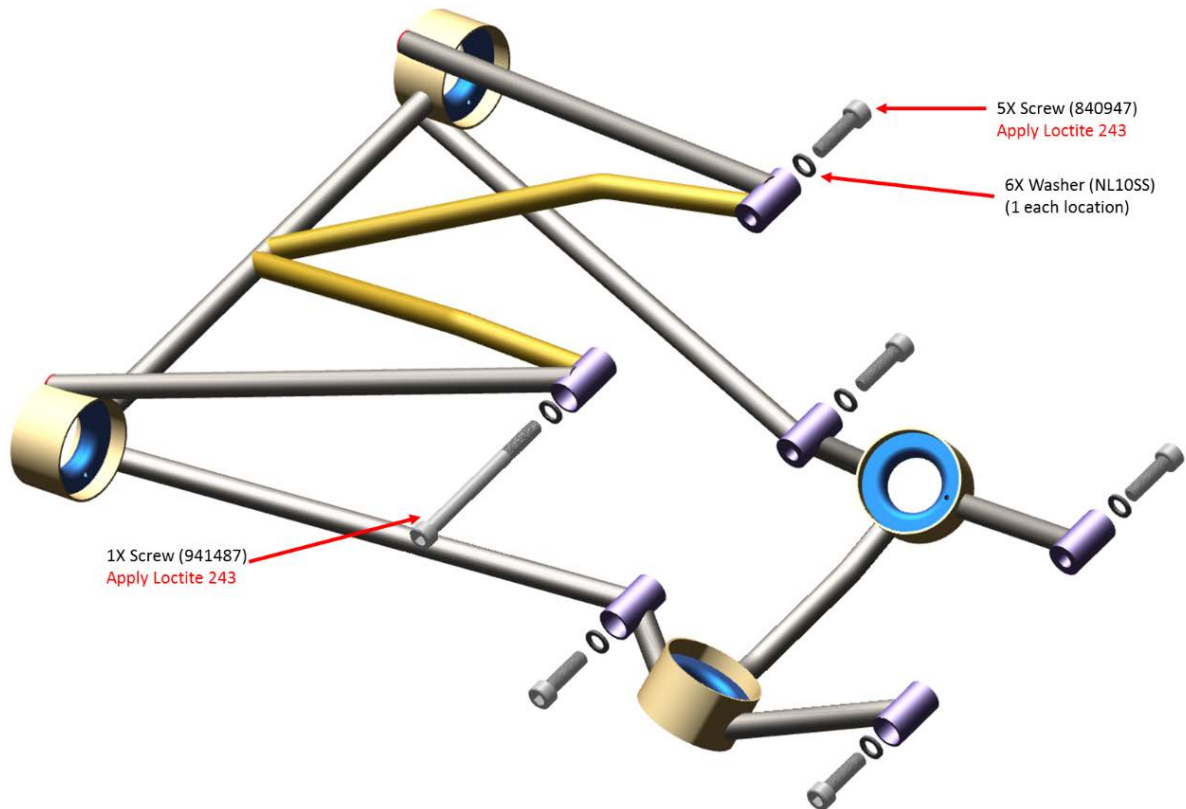

Figure 1: Engine Mount Bolt Installation
1. Install the engine mount as shown in Figure 1.